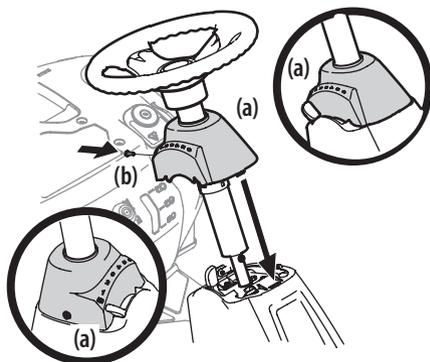

Figure 4
- Slide the pedestal cap (a) down onto the riding mower and slightly rotate to the right to clip into place. Secure the pedestal cap (a) with the screw (b) previously removed. See Figure 4.